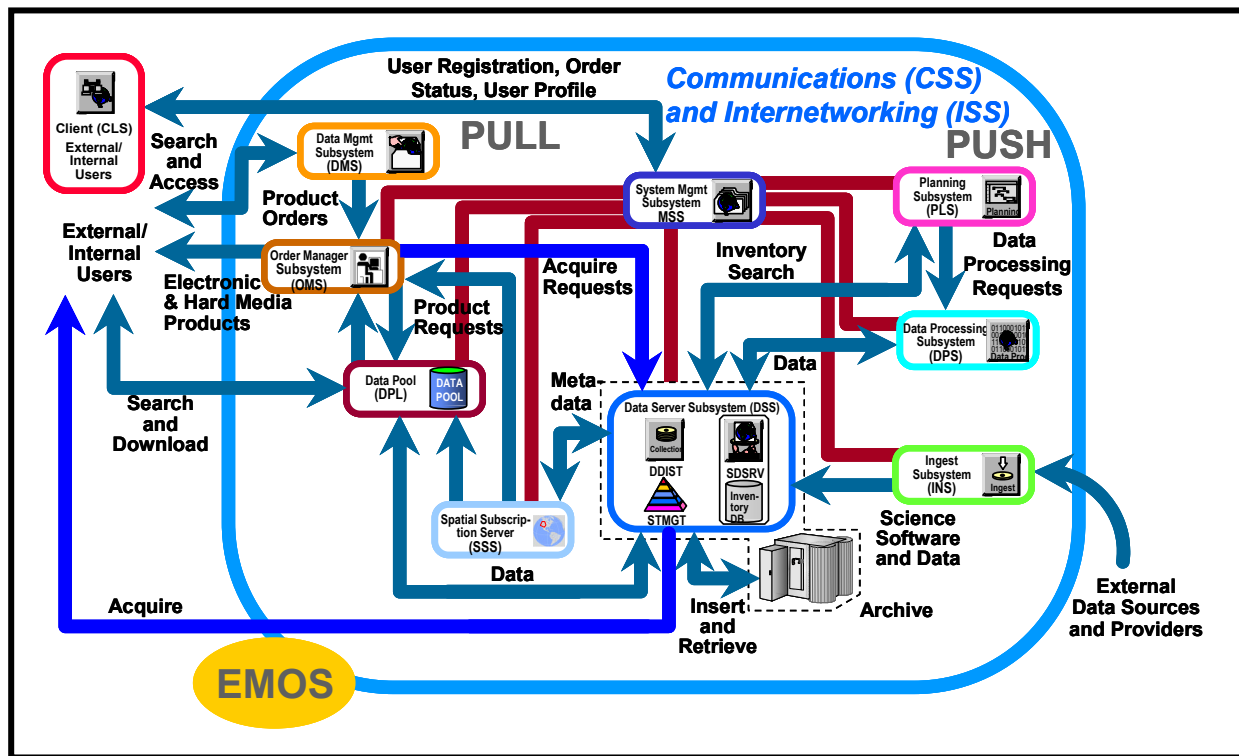
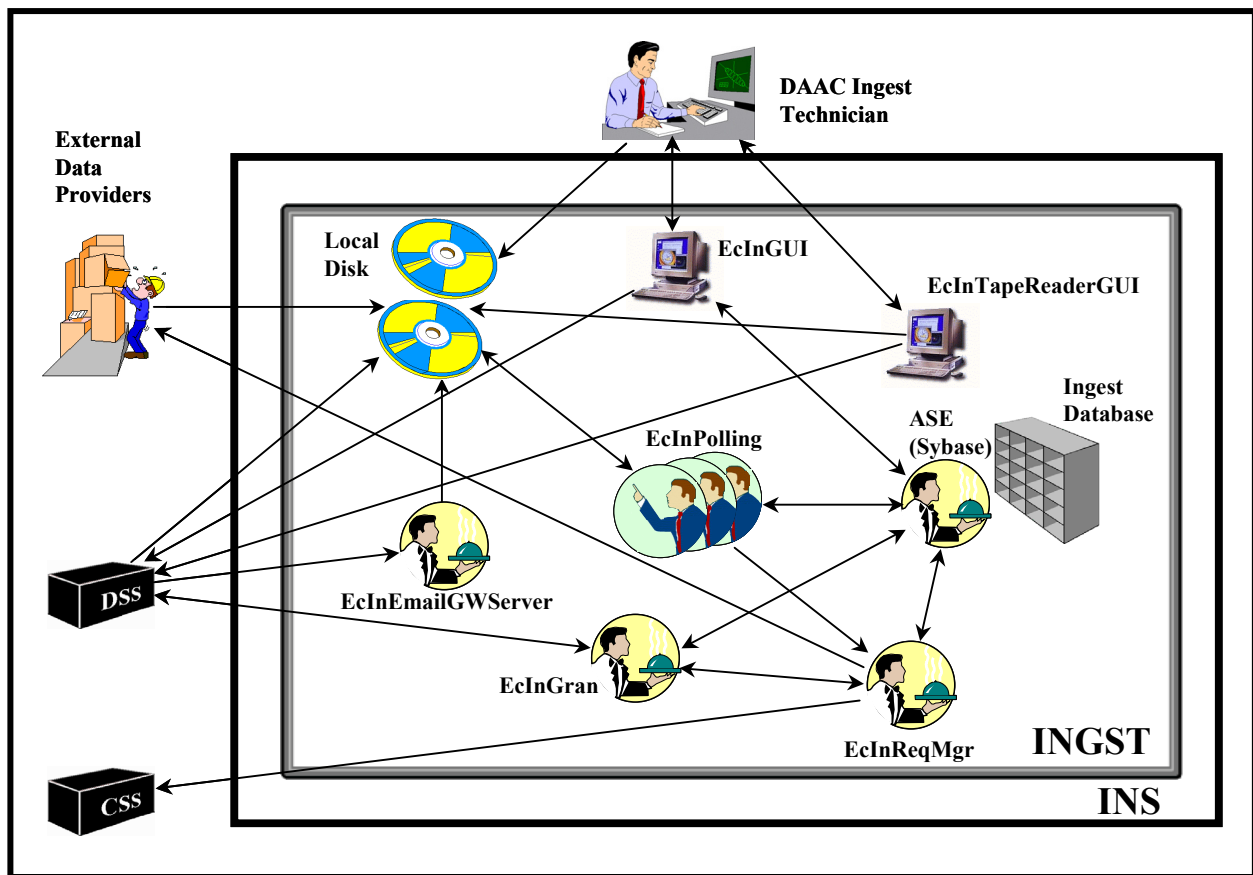

Figure 1. Context Diagram
Figure 2. Ingest Subsystem (INGST CSCI) Architecture Diagram
The Context Diagram (Figure 1) shows the relationships among subsystems within the Science Data Processing component of the system. The Ingest Subsystem (INS) is the point of entry to the system for data from external data providers. The Data Server Subsystem (DSS) manages access to the data repositories, where ingested data are stored. Of course, the context diagram shows a generalized (high-level) view of the system. The Ingest architecture diagram (Figure 2) focuses on the Ingest process and its relationships with other subsystems. The Storage Management (STMGT) and Science Data Server (SDSRV) architecture diagrams (Figures 2 and 3 respectively) focus on those two individual computer software configuration items (CSCIs) of the Data Server Subsystem and their relationships with each other and with other subsystems.
- Ingest (Figure 2) transfers data into the system, performs preprocessing, and forwards the data to DSS for archiving.